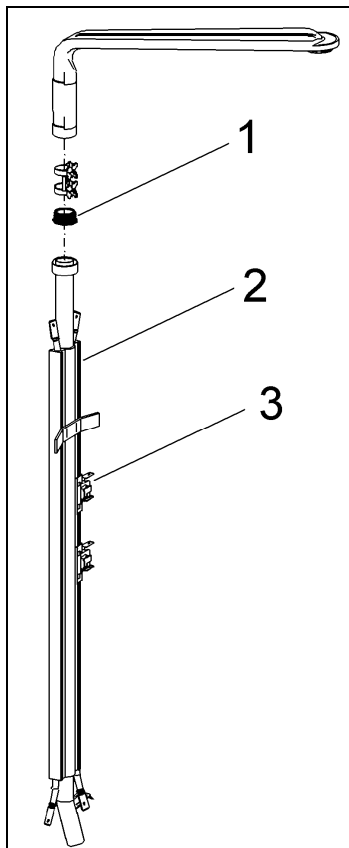

Figure 5-19: Flow-Through Heater Assembly
5. Lift upwards on the heater assembly (Figure 5-19, Item 2) to release it from the retainer.
When replacing a flow-through heater, the old seal (Figure 5-19, Item 1) should be replaced as well.